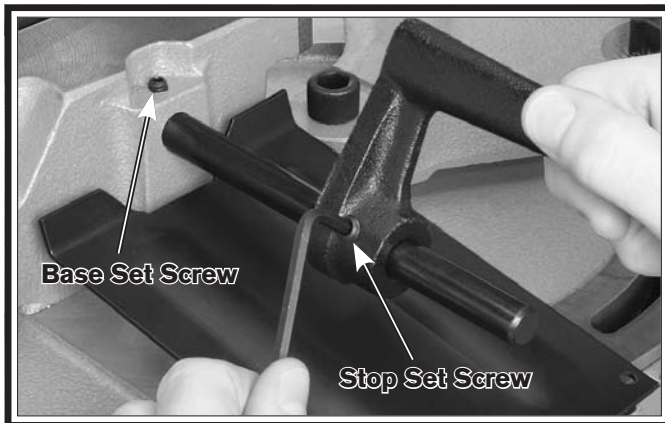

Figure 41. Installing stop rod.
3. Tighten the base set screw (Figure 41).